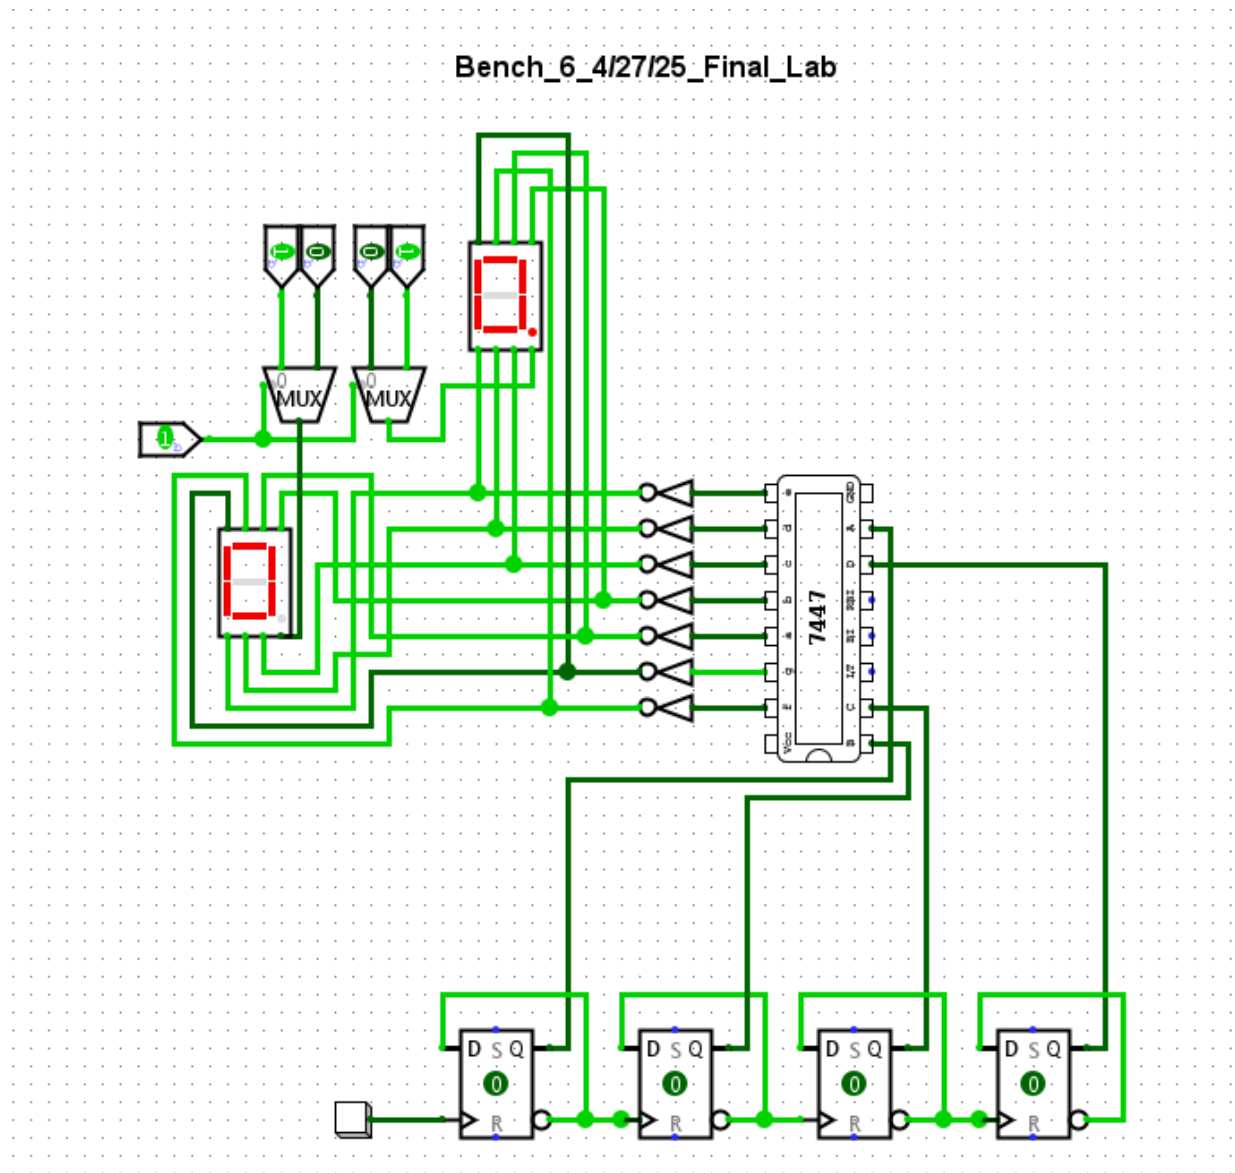

Figure 5: Completed Gate-Level 4-Bit Counter with Multiplexed Displays
10. Your completed circuit should appear similar to Figures 5 and 6.